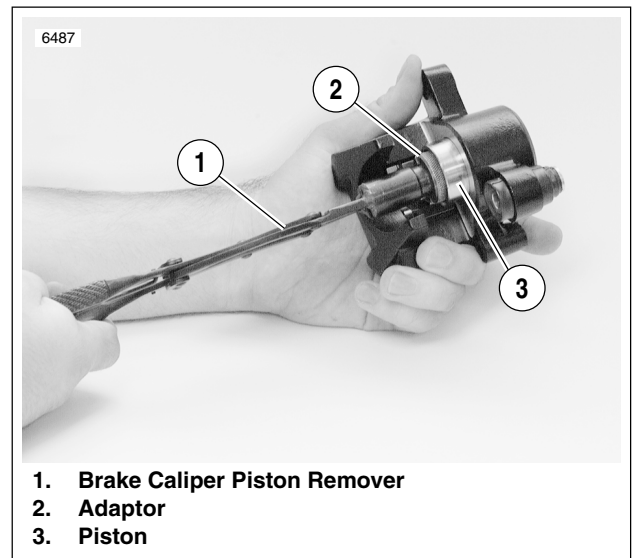
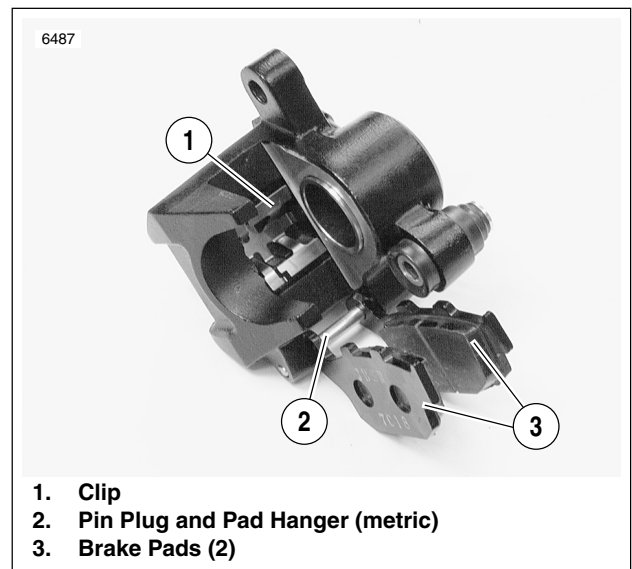

Figure 2-44. Removing Rear Brake Caliper Piston
Figure 2-43. Brake Pads
2. See Figure 2-43. Remove clip (1) from caliper body.
3. See Figure 2-44. Remove piston (3) using BRAKE CALIPER PISTON REMOVER (1) (Part No. B-42877) with adaptor (2).
1. See Figure 2-43. Place clip (1) inside caliper body as shown.
2. See Figure 2-44. Install pistons and O-rings.
- c. Install piston (3) inside caliper body.
3. See Figure 2-43. Install brake pads (3) using pad hanger and pin plug (1).